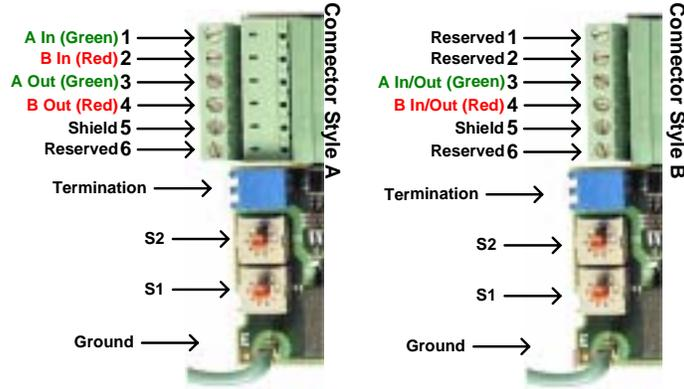

Figure 1.3 – PROFIBUS-DP Option Connections
- 5:** Connect the drive to the PROFIBUS-DP communication network. Refer to **Figure 1.3 – PROFIBUS-DP Option Connections** and **Table 1.2 - PROFIBUS-DP Cable Connections**
- Connect the PROFIBUS-DP network cable to the *PROFIBUS-DP Option*. Refer to the appropriate connection drawing in Figure 1.3 below for your connector style.